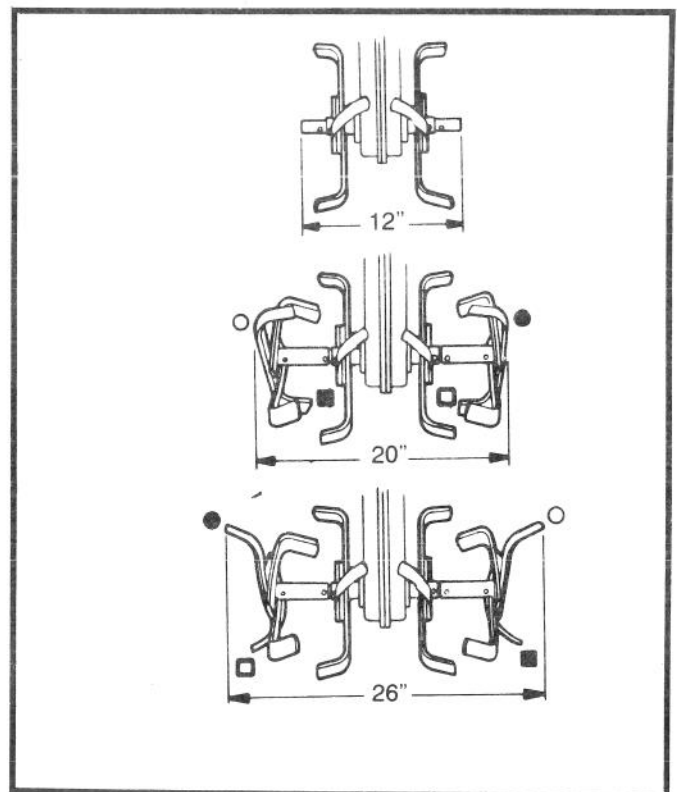

FIGURE 10
Choose one of three (3) different tilling widths (12", 20" or 26") by interchanging the tines pointing in or by removing the outer tine hub assemblies altogether, Fig. 10.
The **20" tilling width** is achieved by removing two (2) tines (those that point out) from each outer tine hub assembly and transfer these tines, installing them on the opposite side of the tiller. The transferred tines should be pointing toward the chain case with the tilling edges (tapered edges) facing the same forward direction as the inner tine hub assemblies. **Match symbols, as shown in Fig. 10, for easy changeover.**